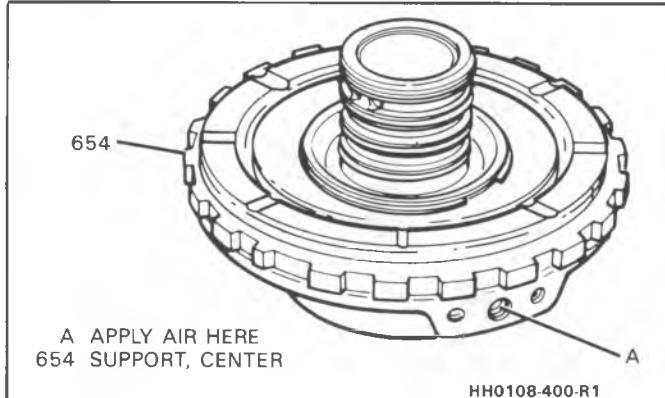

Figure 49 - Air Checking Intermediate Clutch
- Roller clutch race inside center support (654) for scratches, wear or damage.
- Center support (654) for:
- Oil rings (653) and ring grooves for damage, burrs or cuts.
- Air check oil passages (Figure 49).
- Intermediate clutch piston (650) for cracks or damage.
- Springs (648) for collapsed coils or distortion.
**Inspect (Figure 49)**